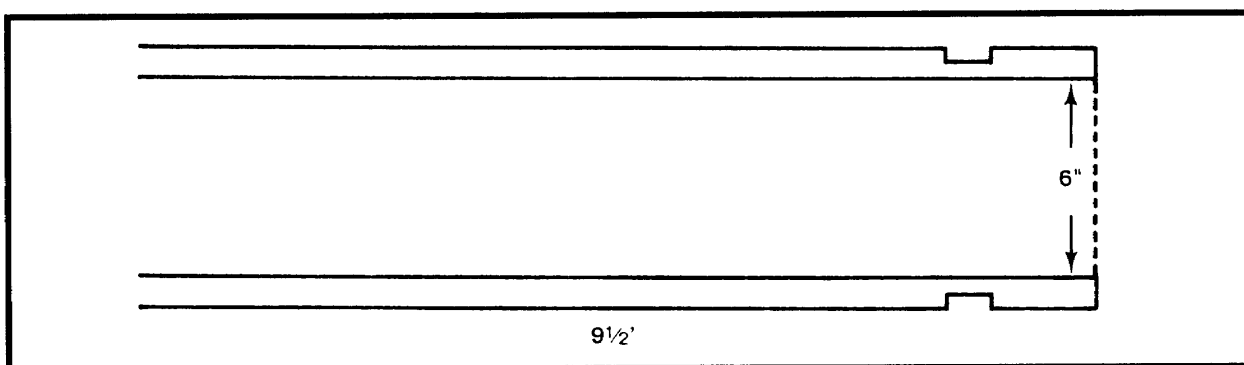

Figure 2-21. 6-inch by 9 1/2-foot aluminum pipe section
(2) Aluminum Pipe Section (Pup), 9 1/2 Feet. These are alloy, constant-wall pipe sections that come in frame bundles of 25 each (Figure 2-21). The pipe sections are used in the pumping stations, at the end of the pipeline, and at other points in the pipeline, as required for makeup. The sections can be cut to any required length and regrooved, using the supplied grooving and cutting equipment. The sections are standard with the 5-mile pipeline sets.
(3) Cutting, Grooving, and Beveling Machine (IPDS). This is a portable machine used to cut and groove nonstandard lengths of aluminum or steel pipe. This machine can also be used to bevel steel pipe for welding. The kit is made up of two large suitcases and two pipe stands. The machine